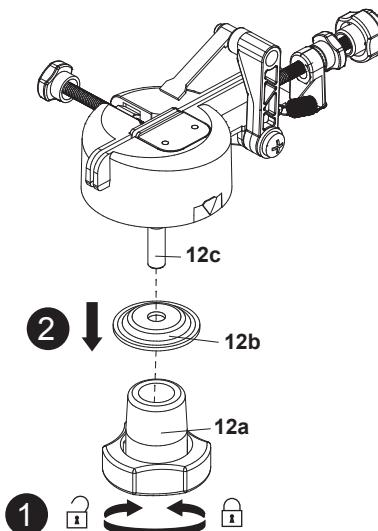

Fig. 1
1. Unscrew the vice retainer (12a) anticlockwise (Fig. 1, step 1).
2. Remove the vice retainer (12a) together with the cup washer (12b) from the bolt (12c) (Fig. 1, step 2).